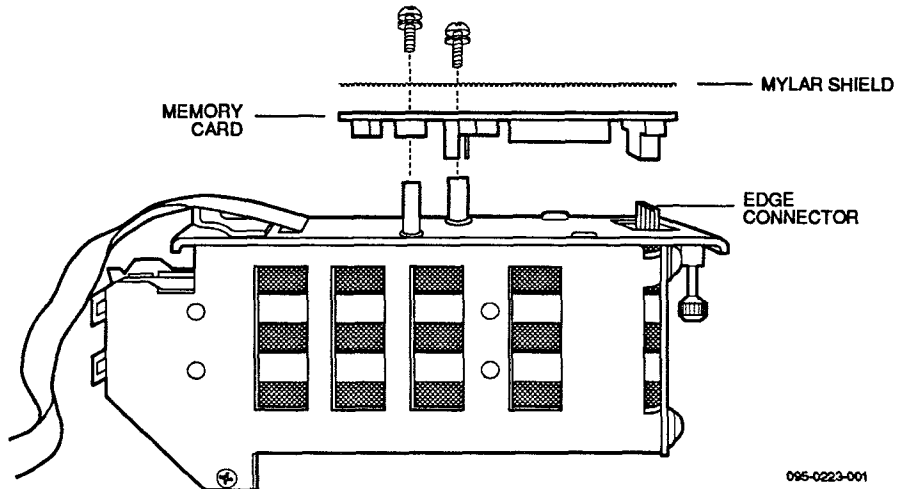

Figure 3. Memory Board Removal
7. Remove the two Phillips-head screws and armiture or mylar shield from the memory board (see Figure 3). Retain the washers and screws for reassembly. (If you are updating a UniPak 2B that was factory built, rather than a field conversion, it will not contain any washers.)
8. Pull the memory board straight up to unplug it from the card edge connector (as shown in Figure 3).
1. Plug the memory board into its card cage edge connector (figure 3) until it is firmly seated.